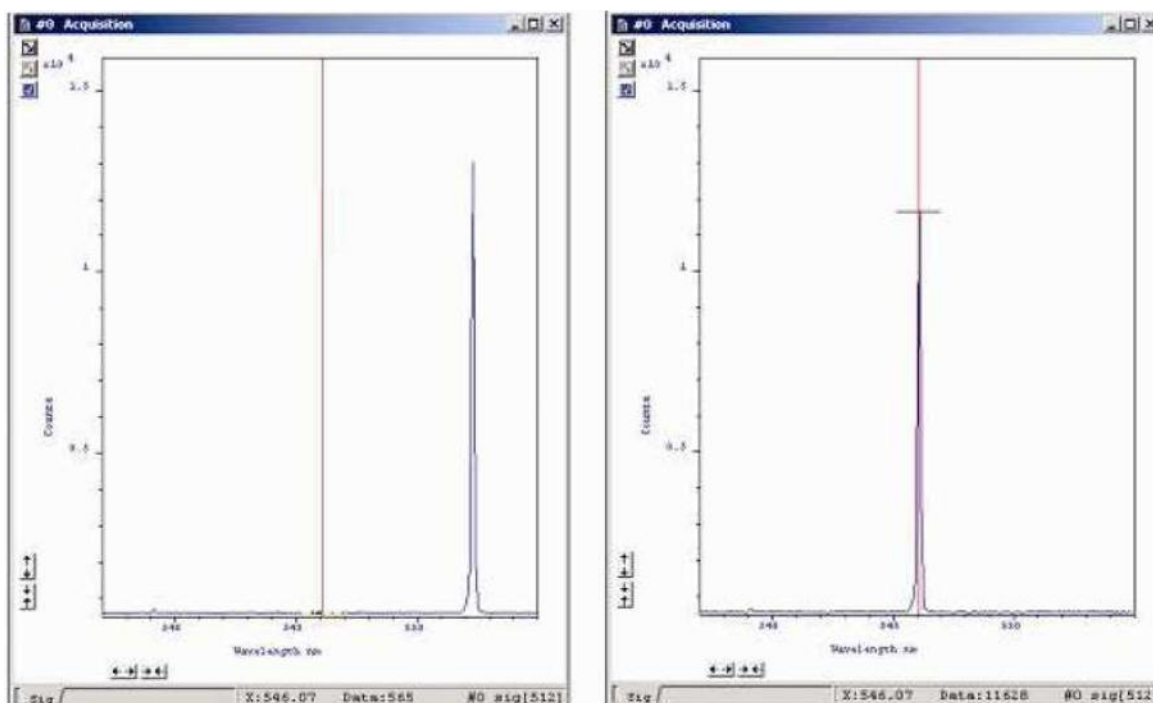

Figure 2: Spectra acquired before (left) & after (right) Detector Offset Adjustment
4. Acquire data. The target line should appear close to the centre of the display. Pressing the centre line button on the offset adjustment control will draw a red line on the centre CCD column of the display and serves as a useful aid to offset adjustment (see figure 2 below).